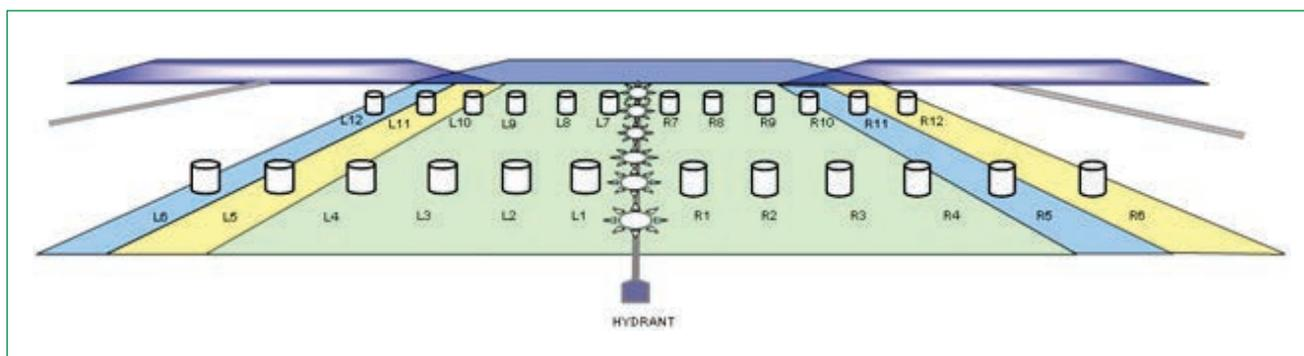

Figure 2.2. Sprayline wetted strip, overlap and collector placement
Figure 2.2 shows how the two rows of collector buckets are laid out relative to the sprayline wetted strip. This enables the overlap of adjacent spraylines to be included in calibrations.
4. Place one bucket half way between the edge of the lane and the edge of the wetted width [L6 in Figure 2.2]
5. Mirror this inside the edge of the lane, placing another bucket at the same spacing from the edge of the lane [L5 in Figure 2.2]
6. Arrange four more buckets at even spacing to cover the area back to the centre line (the lateral pipe) [L4–L1 in Figure 2.2]. The spacing may be different to the overlap buckets
7. Repeat Steps 4, 5 & 6 on the right hand side (R1–R6 in Figure 2.2)
8. Then repeat Steps 4 to 7 at position T2 (L7–12 and R7–12 in Figure 2.2).